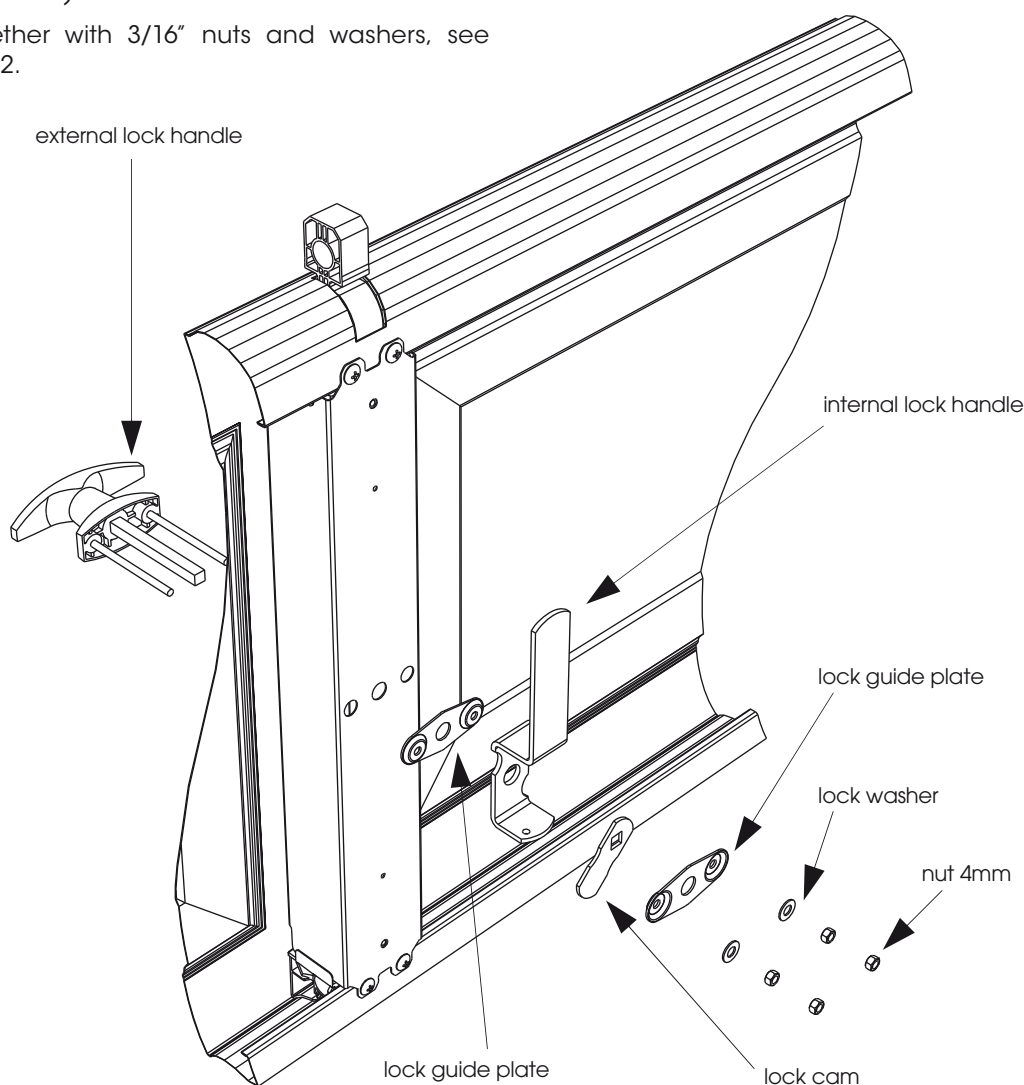

Fig: 5.5.2
- Lock together with 3/16" nuts and washers, see Figure 5.5.2.